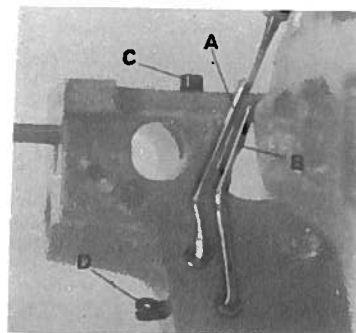

fig. 10
- To set front needle guard A (fig. 10), loosen screw C.